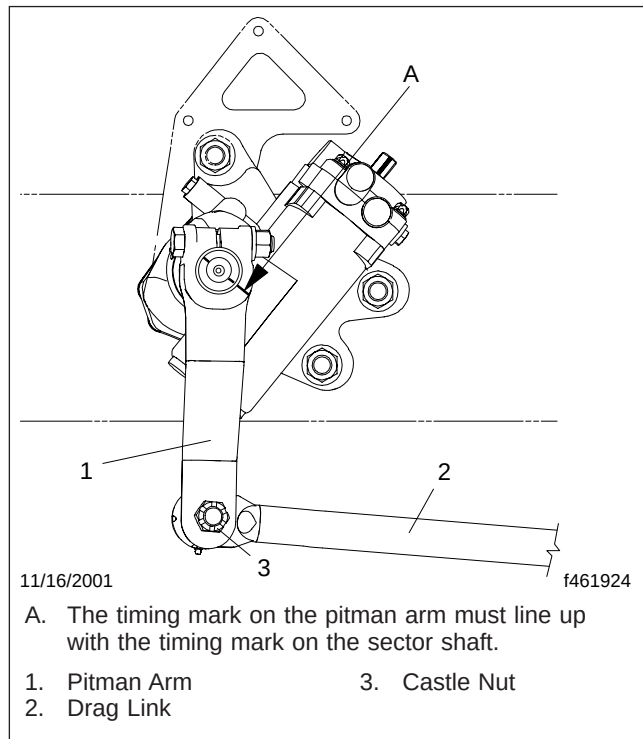

Fig. 3, Pitman Arm
- 4.1 Position the pitman arm on the steering gear, aligning the timing mark as shown in Fig. 3.